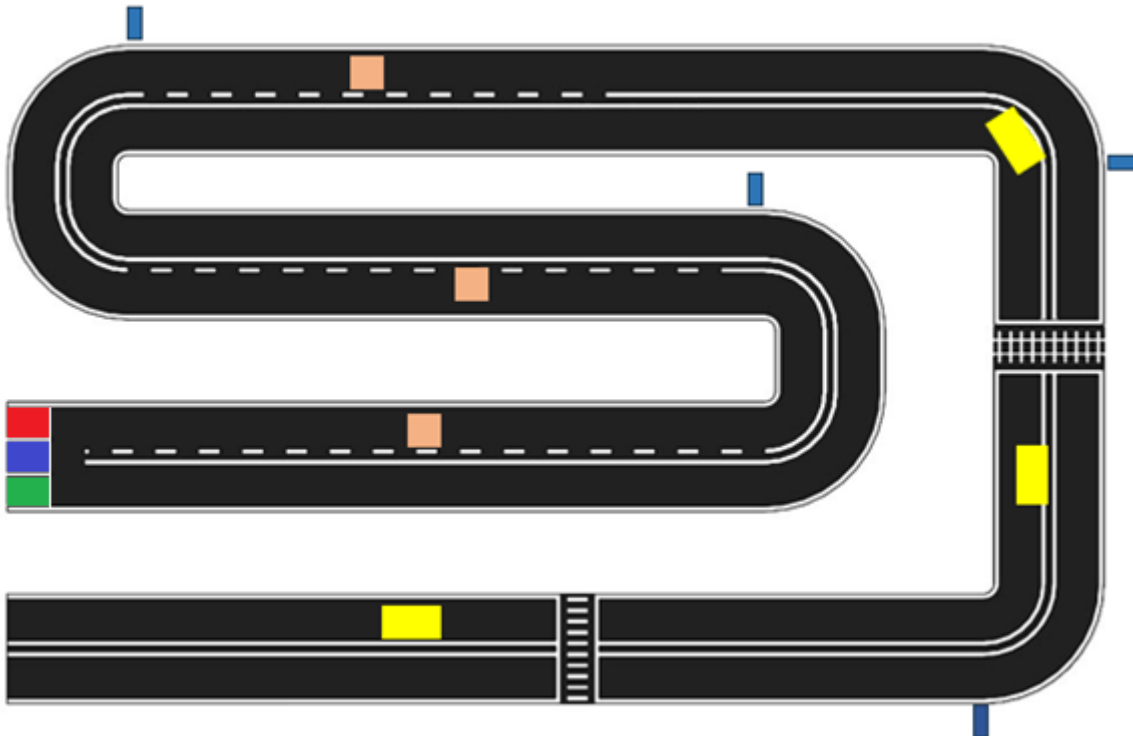

Figure 1: Competition Track
- For the vehicle overtaking task, 1 vehicle will be used on the track and the position of the vehicle will be re-determined for each competitor. The vehicle will be placed in any of the areas where overtaking is not prohibited. Sample locations of the vehicle to be overtaken are shown in Figure 1. The characteristics of the vehicle are as follows: orange in colour, 20x30x25 cm in size and designed in the form of a taxi.
- In areas where overtaking is prohibited, yellow coloured vehicles with dimensions of 20x45x25 cm will be placed at a random location as shown in Figure 1. These vehicles are designed as taxis or lorries.
- There are 5 zones on the track, as shown in blue in Figure 1. The zones will be determined by signs to be placed on the ground on the roadside.